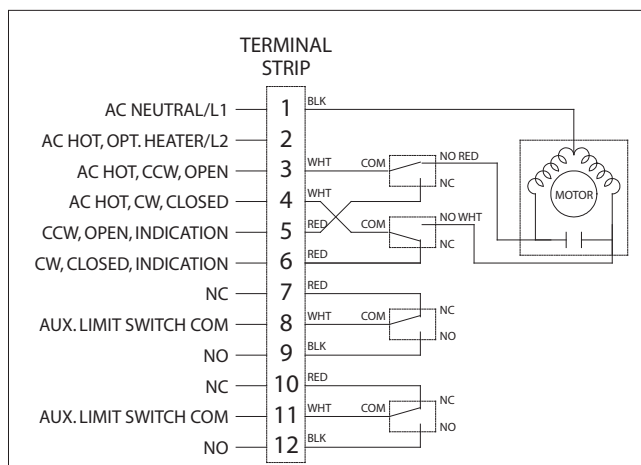
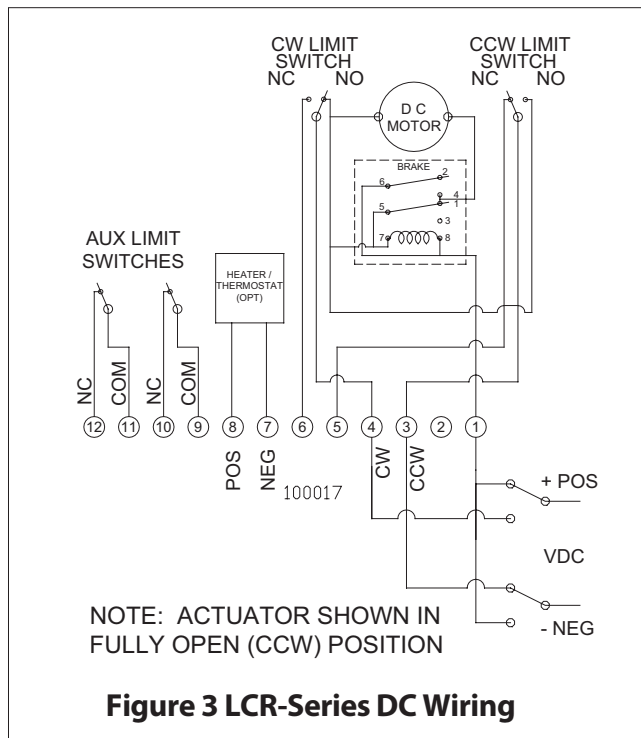

Figure 2 LCR-Series AC Wiring
Figure 3 LCR-Series DC Wiring
- 2) Attach the Black Wires to the Normally Open (NO)spade connector on the new Limit Switches.
- 3) Attach the Red Wires to the Normally Closed (NC) spade connector on the new Limit Switches.
- 4) Attach the three wires to the terminal strip in accordance with the proper wiring diagram provided in **Figures 2 & 3**.
The identification label on each actuator specifies the voltage and current requirements for the actuator. For convenience, **Figure 2** shows the standard power and control wiring connections for AC actuators and **Figure 3** shows the standard power and control wiring connections for DC actuators. For 120VAC actuators, #18 or #20 AWG wiring may be used for short runs. #16 AWG is recommended for longer runs. Be sure to follow local wiring codes.